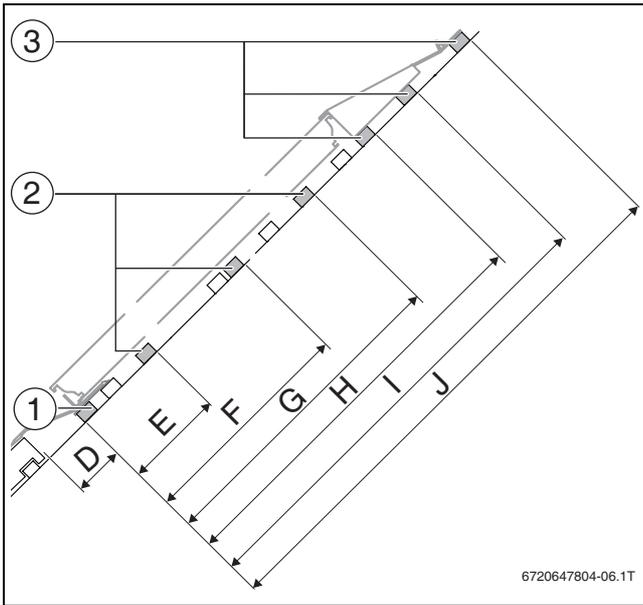

Fig. 28
▶ Fit additional batten for retainer (→ Fig. 28 and 29, [1]).
i The precise orientation of the batten for the retainer (→ Fig. 28 and 29, [1]) depends on the roof cover orientation.
▶ Fit additional battens for clamp (→ Fig. 28 and 29, [2]).
▶ Fit additional battens for top flashing panel (→ Fig. 28 and 29, [3]).